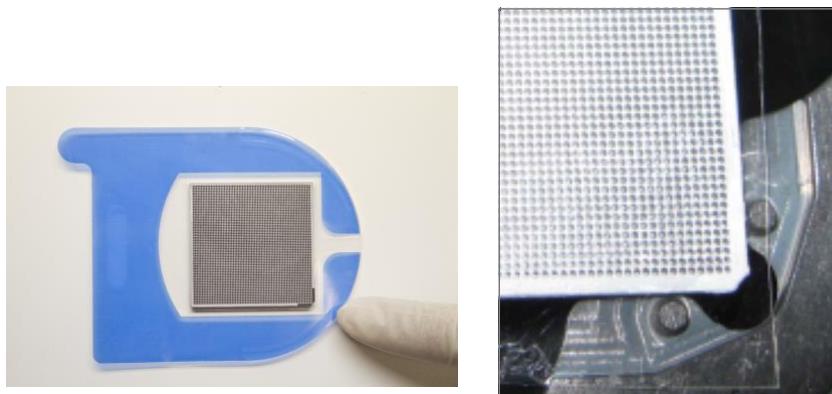

Figure 10. Peel the blue backing from the sealed chip and place it in the SmartChip ND cycler.
- Peel away the blue backing from your sealed SmartChip Panel or MyDesign Chip to expose the adhesive on the clear seal. Place it in the SmartChip ND Cycler with the beveled edge in the lower right corner as shown in Figure 10. Make sure the chip lays flat in the SmartChip holder.